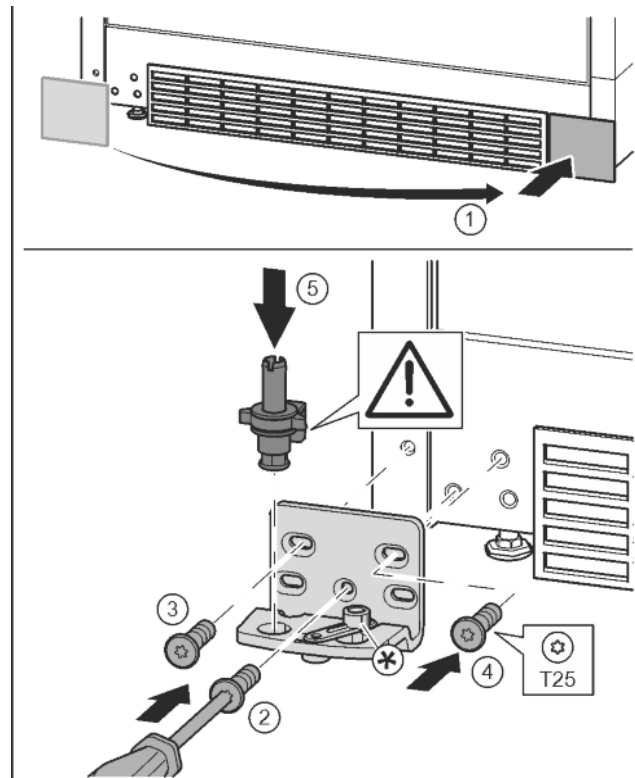

Fig. 13
- ▶ Remove the cover and fix onto the other side. Fig. 13 (1)
- ▶ Place the bearing bracket on the other side and screw in with the T25 screwdriver. Start with screw 2 at the bottom in the middle. Fig. 13 (2)
- ▶ Screw in screws 3 and 4. Fig. 13 (3, 4)
- ▶ Insert the bearing bolts completely. Ensure here that the catch mechanism points backwards. Fig. 13 (5)